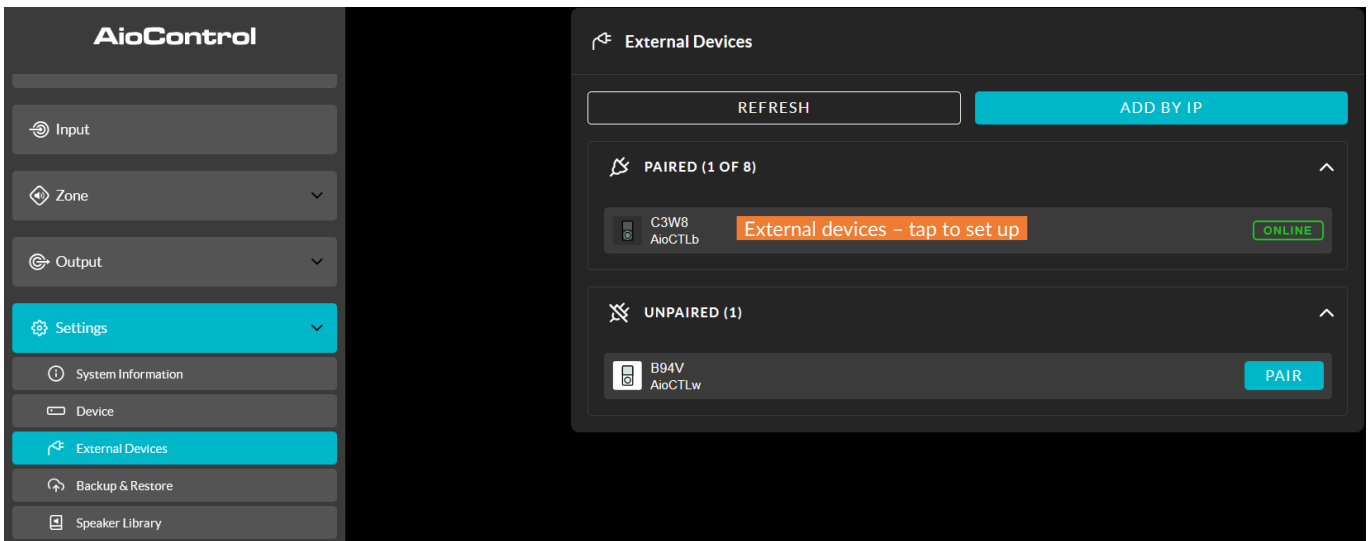

Figure 5M: The 'External Devices' screen
- The **'External Devices'** menu allows you to pair control panels with an amplifier and configure them. Depending on the product, installation and configuration, each device can remotely control one or more amplifier zones. Figure 5M shows the **'External Devices'** menu display .